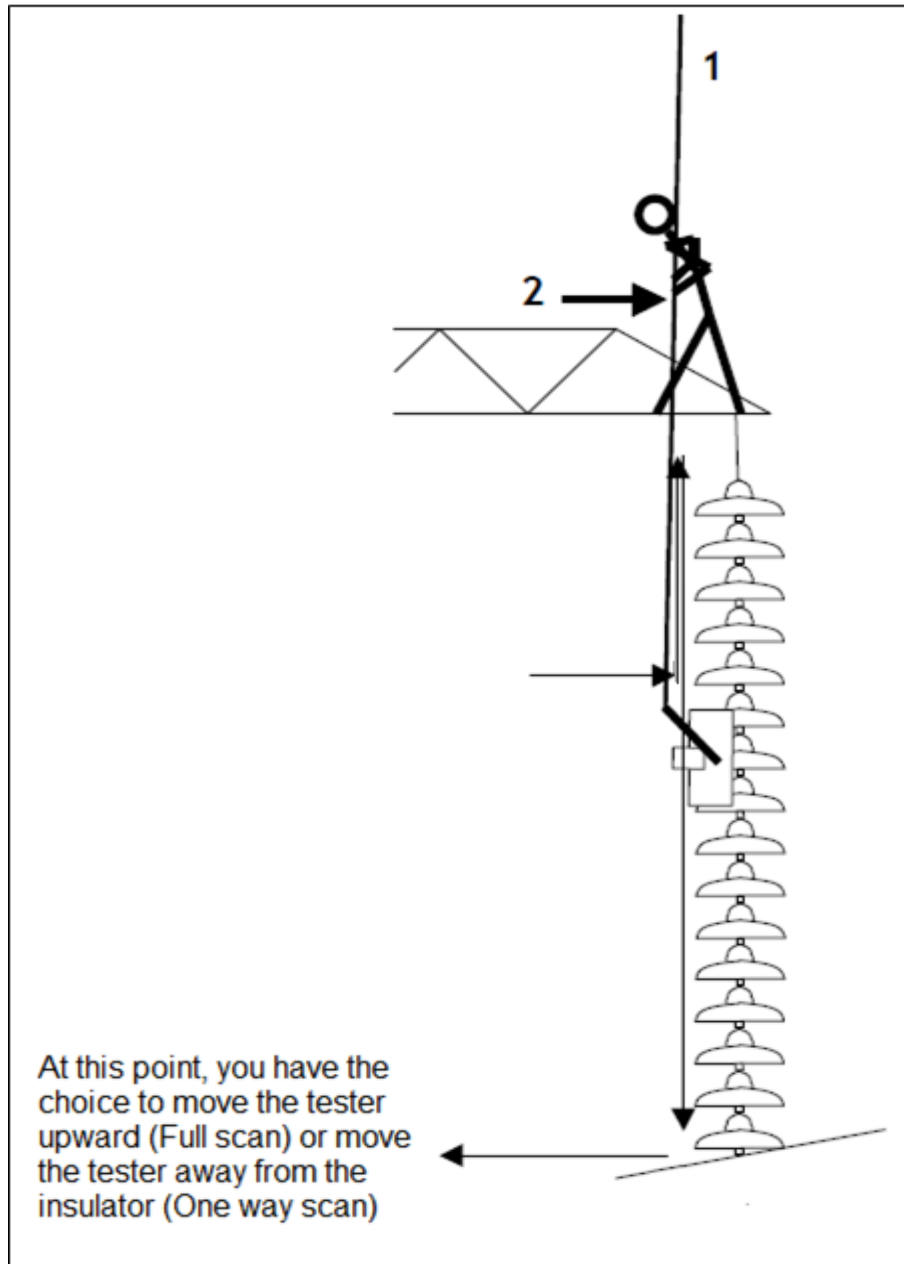

Figure 25
1. To facilitate the manipulation, the hot stick should be almost vertical, per Figure 25.